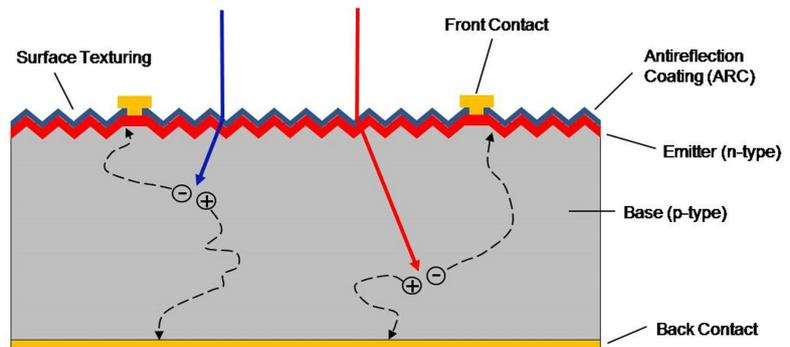

Figure 1.16: Typical structure of solar cell
The basic solar cell is a semiconductor wafer grown or deposited on a conducting substrate. The area of a solar cell is usually in the range of 10 cm2 to 100 cm2. The front surface is usually coated with anti-reflective (AR) material and contacted with a fine metal grid. Cells are usually connected in series to deliver a useful voltage (12 V standard) before being encapsulated into modules. A typical device structure is shown in Figure 1.16.